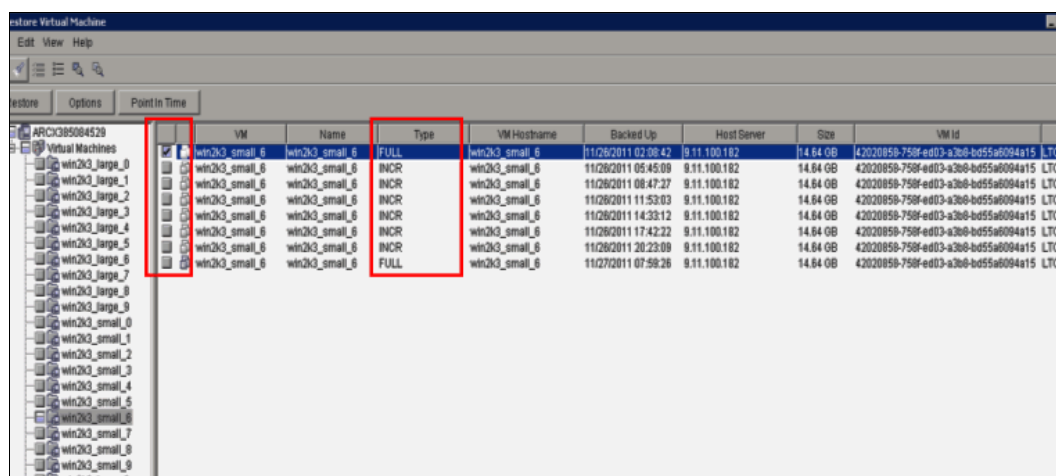

Figure 20-27 Restore Virtual Machine window
2. The Restore Virtual Machine window opens (Figure 20-27). Select the version to restored, either full backup (**FULL**) or incremental backup (**INCR**).